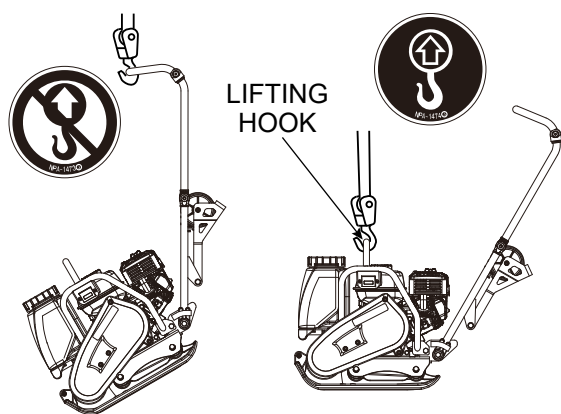

Figure 28. Lifting the Machine
11. When lifting, always use the lifting hook. Never lift by using the handle as the lifting hook (Figure 28).